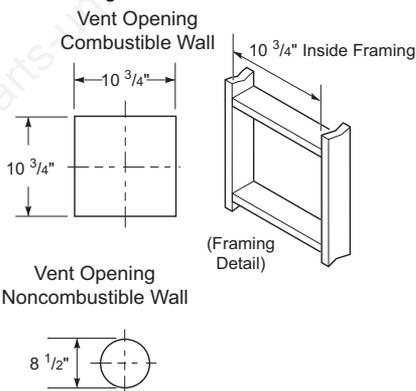
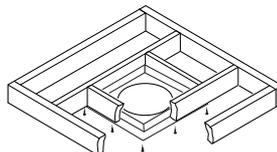

Figure 18 - Vent Opening Requirements
Figure 26 - Installing Firestop
- Attach vent pipe assembly to fireplace using twist lock connections for rigid pipe or clamp method for flex pipe. Set fireplace in front of its permanent location to insure minimum clearances. Mark wall for a 10 ³/₄" square hole (for noncombustible material such as masonry block or concrete, a 8 ¹/₂" diameter hole is acceptable). See Figure 18. The center of hole should line up with center line of rigid vent pipe. Cut a 10 ³/₄" x 10 ³/₄" square hole through combustible exterior wall (8 ¹/₂" diameter hole if non-combustible). Frame as necessary.
- Cut a 12 1/2" square hole in the ceiling using locating hole as a center point. Opening should be framed to 12 1/2" x 12 1/2" inside dimensions, as shown in Figure 18 on page 13, using framing lumber the same size as ceiling joists. If area above ceiling is an insulated ceiling or an attic, nail firestop from top side. This prevents loose insulation from falling into required clearance space. If area above ceiling is a living space, install firestop below framed hole. The firestop should be installed with no less than three nails per side (see Figure 26).
- Cut a hole in roof using locating hole as a center point. (Cover any exposed open vent pipes before cutting hole in roof.) The 12 1/2" x 12 1/2" hole must be measured on the horizontal, actual length may be larger depending on pitch of roof. There must be a 1" clearance from vent pipe to combustible materials. Frame opening as shown in Figure 18 on page 13.